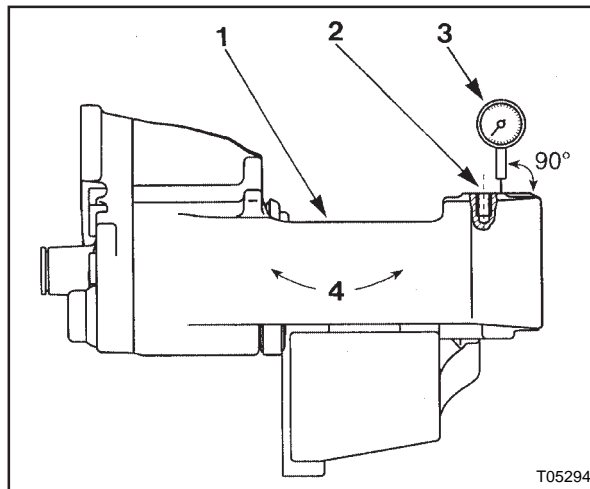

Figure 11 : Dial indicator installation
- e. Attach dial indicator (3) as indicated in Figure 11. The drawing shows a top view of caliper (1), in which is tapped a hole (2) to receive the screw of the pad retaining plate.
- f. Hold the caliper at the side of the outer pad (see Figure 12). Tilt the caliper by hand in the direction of the arrows (4) indicated in Figure 11 (Do not slide the caliper!).